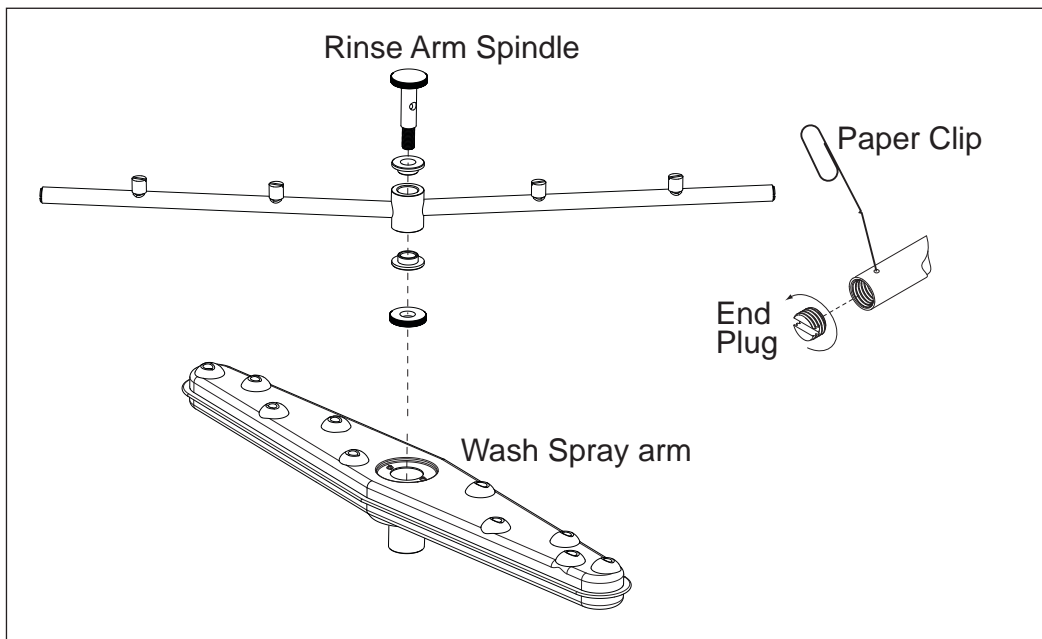

Fig. 30
4. Check the rinse spray arm nozzles. If necessary, remove the end plugs and clean the nozzles with a small paper clip to remove lime or other debris. Flush the arms clean and replace the end plugs. See Fig. 30 below.